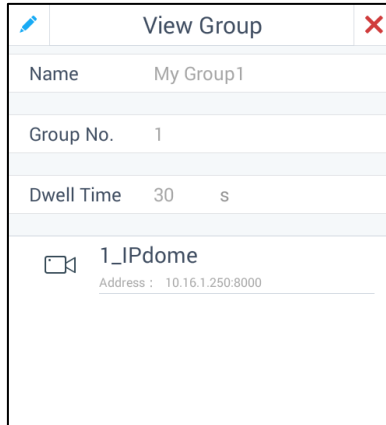

Figure 4.28 Viewing the Group
1. Click **Details** to view the detailed information of the group including name, number, cycle dwell, etc. The details of the group are shown in Figure 4.28.